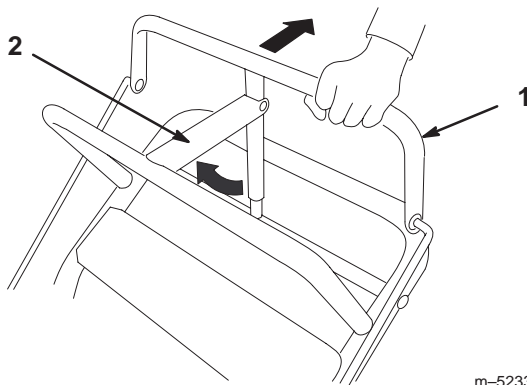

Figure 7
5. Check parking brake adjustment. Brake rods should be adjusted so parking brake lever is tight when swung into position against the fixed bar while pulling back on upper control bar (Fig. 7).